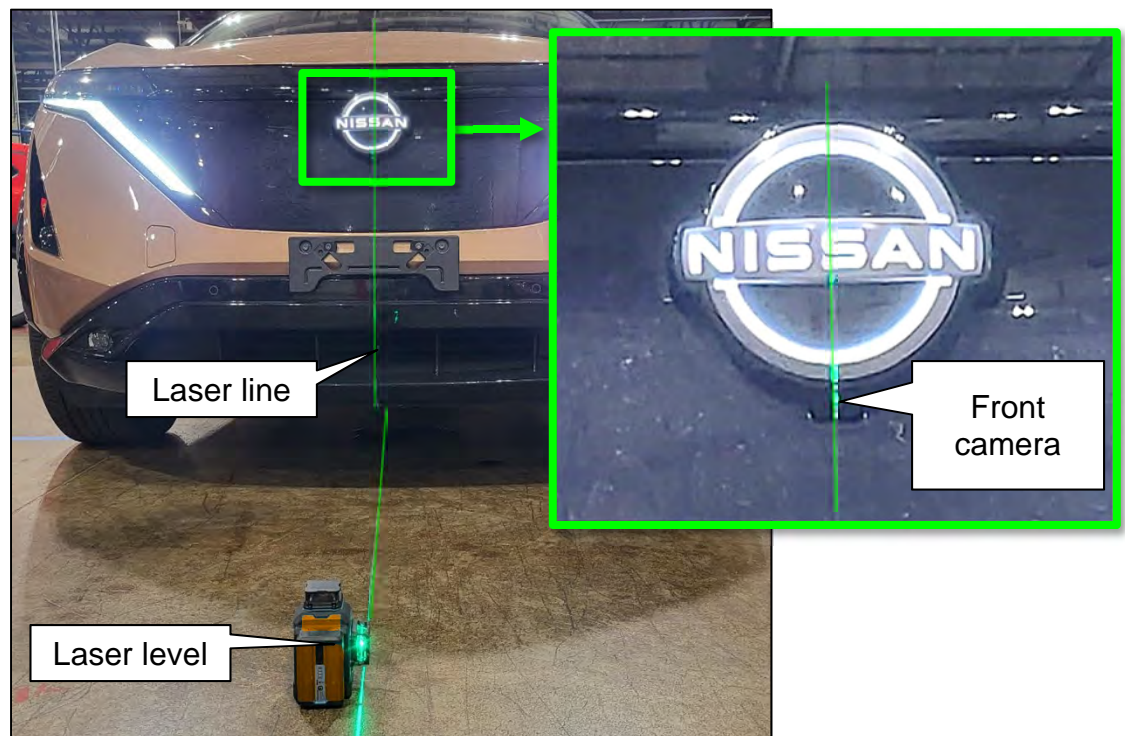

Figure 63
42. Place the laser level approximately 800 mm (31.5 in.) from the front of the vehicle and align the laser with the front camera, as shown in Figure 63.